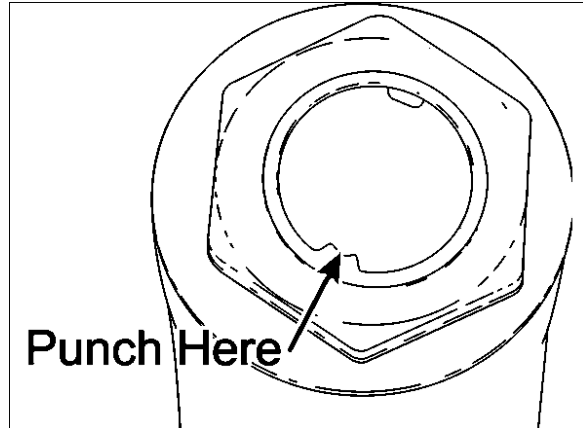

FIGURE 4: FIXING NUT PUNCH MARK
3. Using a cold chisel, undo the punch mark (Fig. 4) that locks the nut to the pitman arm.
2. Stake the nut on the shaft using a punch mark into the groove (Refer to figure 4).